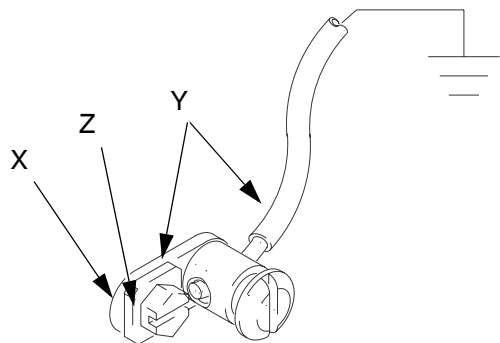

FIG. 6: Ground Screw
If you have ground screw shown in FIG. 6, you need to order part no. 222011 ground wire, ring terminal, and clamp assembly (Y). To install 222011, remove the ground screw (Z) and insert it through the eye of ring terminal (X), then tighten ground screw back into air motor as shown in FIG. 6. Connect the other end of the wire to a true earth ground.